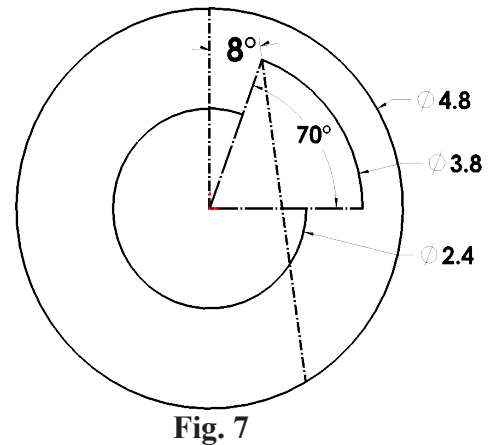

Fig. 7
Origin  up to outside circle. Sketch a second centerline from top endpoint of middle circle at angle to outside circle, **Fig 7**.
Step 3. Click **Smart Dimension**  (S) on the Sketch toolbar.
Step 4. Dimension angle between centerlines **8°**, **Fig. 7**.